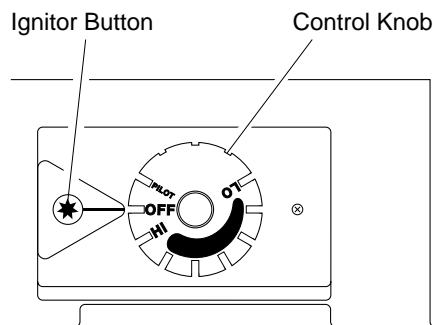

Figure 29 - Control Knob In The OFF Position
4. Wait five (5) minutes to clear out any gas. Then smell for gas, including near the floor. If you smell gas, **STOP!** Follow "B" in the safety information, column 1. If you don't smell gas, go to the next step.
5. Turn control knob counterclockwise to the PILOT position. Press in control knob for five (5) seconds (see Figure 29).